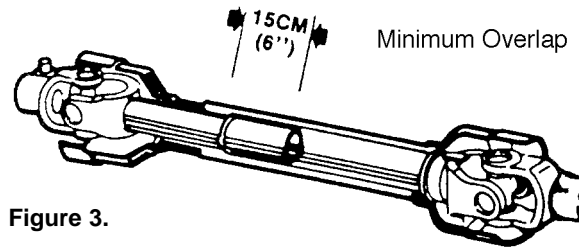

Figure 3.
3. Hold driveline sections parallel to each other to determine if too long. Each section should end approximately 3" (76mm) short of reaching universal joint shield on opposite section. If too long, measure 3" (76mm) back from universal joint shield and mark on opposite section (Figure 3). Do this for both sections. **DO NOT CUT UNTIL STEPS 4 AND 5 ARE CHECKED.**